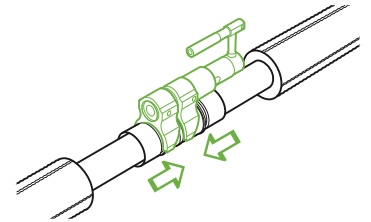

Fig. B10.3.12
15. Using the pump, press the outer sleeve until it is snug with the inner coupler (Fig. B10.3.12). During pressing process, please ensure that the inner coupler is firmly located inside the pipe without displacement.